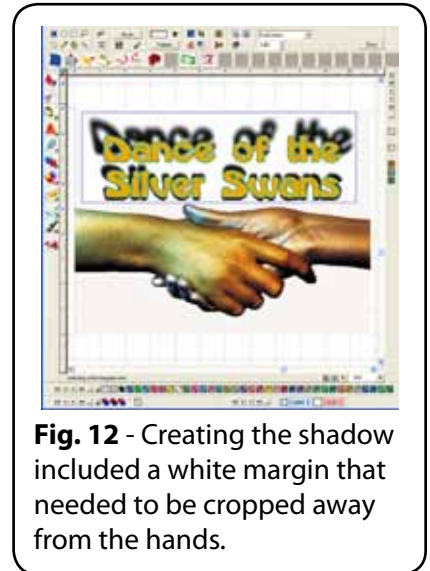

Fig. 12 - Creating the shadow included a white margin that needed to be cropped away from the hands.
48. Click the **Crop Region** button (Fig. 12).